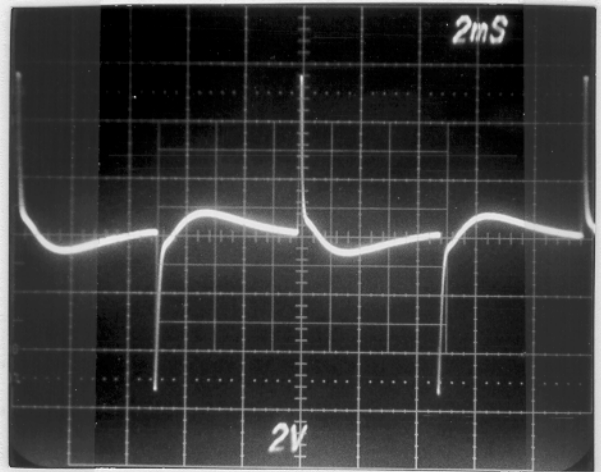

Fig. 10. Lo-Cut in.
- 1) Engage low-cut switch- compare to Fig. 10. Disengage.